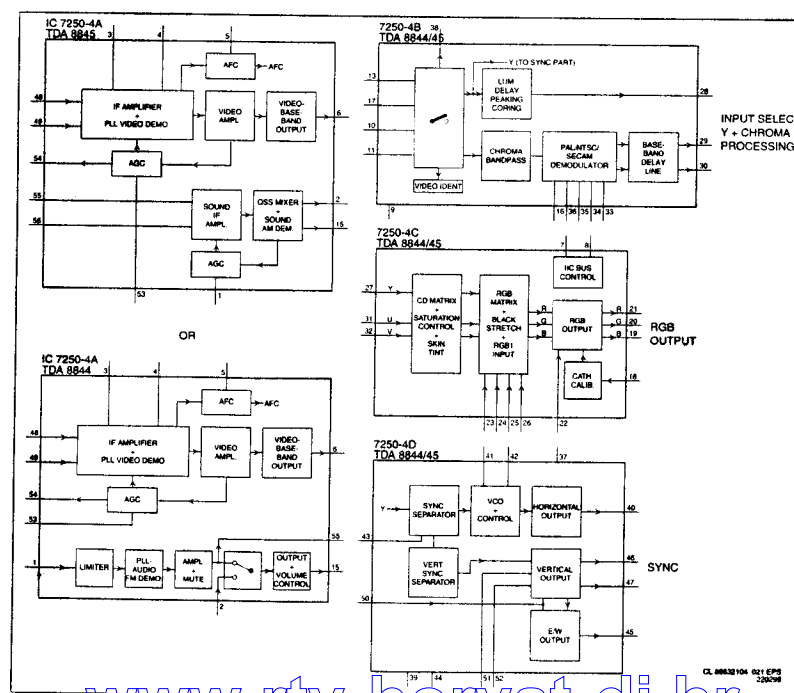
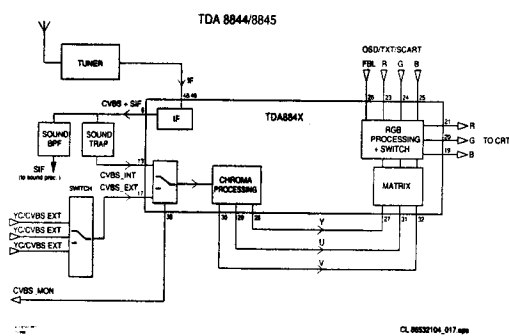

Figure 9-14 "BIMOS"
Figure 9-15 "Videopath"
In Figure 9.15 a simplified block diagram of the video path is shown. The main item in the block diagram shown in Fig.9.14 is the video processor item 7250. The IC performs the following functions, video IF demodulation, chroma processing and RGB processing. Additionally synchronisation processing, mono IF audio demodulation and audio selection takes place.
For a detailed block diagram of the TDA8844/8845 see Figure 9.14.